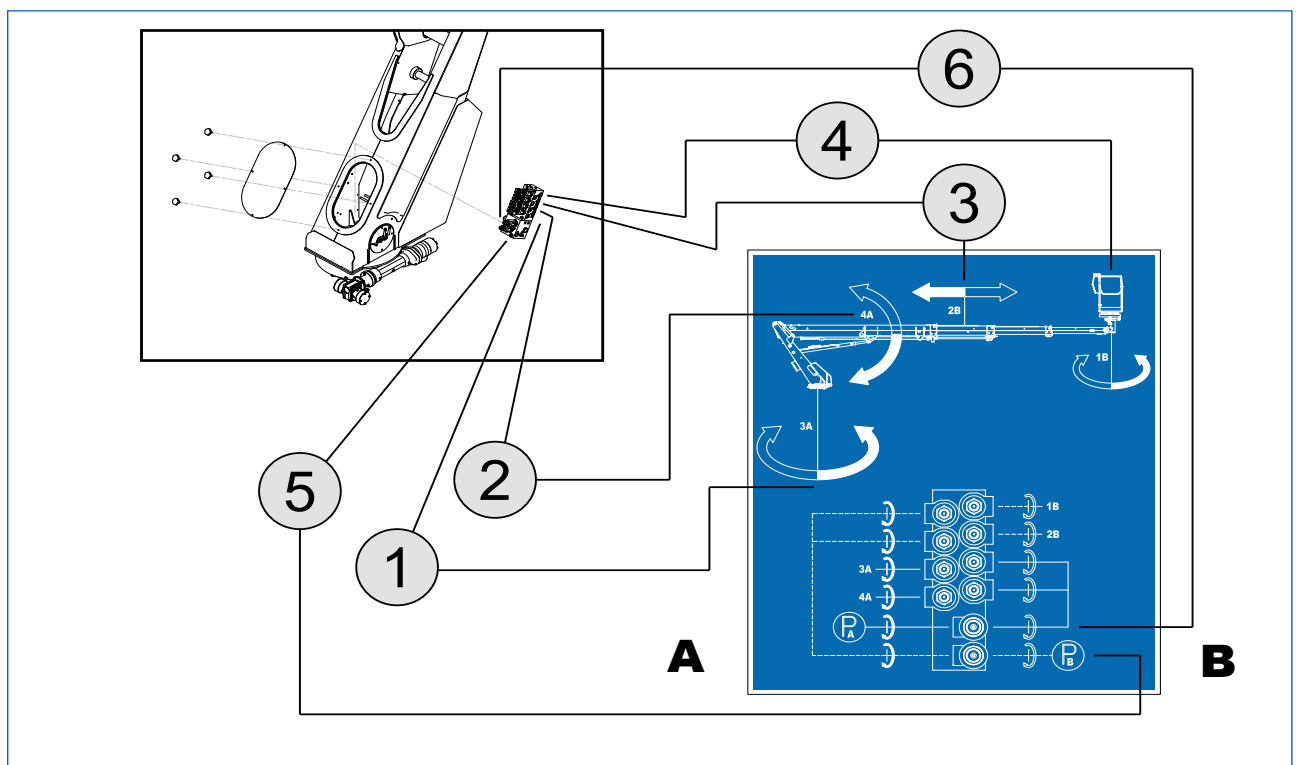

Fig. 7.5
- 5) lower the platform to the ground following the indications shown in the diagram on the label (Fig. 7.5, 4) above the cover:
- A) completely close the proportional valve (Fig. 7.5, 5);
set the speed of the desired maneuver by acting on the proportional valve (Fig. 7.5, 5). At the end of the maneuver, close the valve (Fig. 7.5, 3A o 3B) and the valve (Fig. 7.5, 5);
set the speed of the desired maneuver by acting on the proportional valve (Fig. 7.5, 5). At the end of the maneuver, close the valve (Fig. 7.5, 4A o 4B) and the valve (Fig. 7.5, 5);
set the speed of the desired maneuver by acting on the proportional valve (Fig. 7.5, 5). At the end of the maneuver, close the valve (Fig. 7.5, 1A o 1B) and the valve (Fig. 7.5, 5);
set the speed of the desired maneuver by acting on the proportional valve (Fig. 7.5, 5). At the end of the maneuver, close the valve (Fig. 7.5, 2A o 2B) and the valve (Fig. 7.5, 5);
- E) after the maneuvers, unscrew until the proportional valve is knocked (Fig. 7.5, 5);